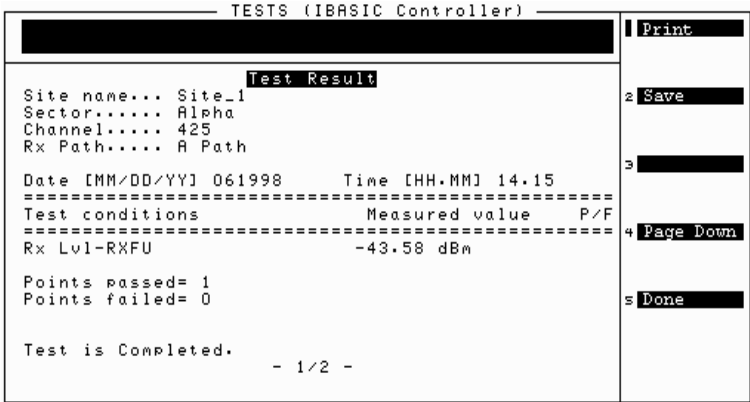

Figure 21 Test Results Table for RX Level - RXFU Measurement
- Press k1 (Proceed) to proceed to the test results table when you are finished testing on this screen (see figure 21).